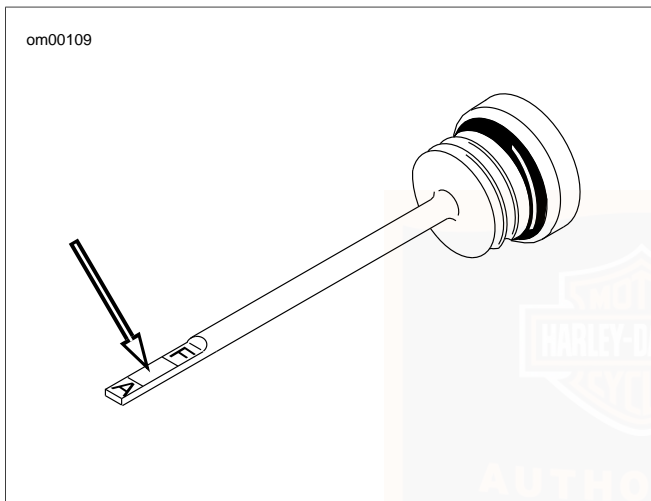

Figure 51. Transmission Filler Plug/Dipstick Lubricant Level
3. See Figure 51. Remove the threaded filler plug/dipstick by turning the plug counterclockwise and pulling outward.